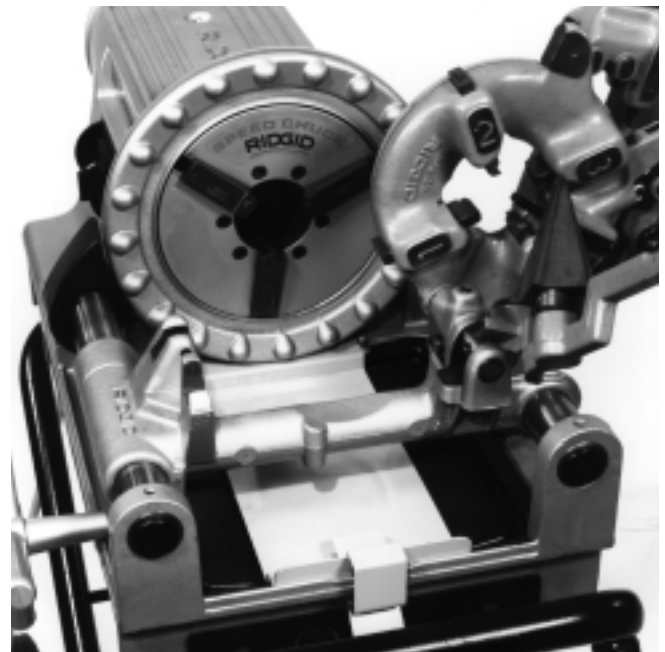

Figure 2A – Oil Seal Pressure Plate Properly Inserted
5. Oil seal pressure plate should be used when transporting 300 Compact on 250 Stand. To insert pressure plate: remove chip tray, slide tongue of plate under 300 Compact hammer wheel, force spring clip down and onto front edge of body casting as shown in Figure 2A. Rubber seal on bottom of pressure plate will cover drain holes in drip tray.